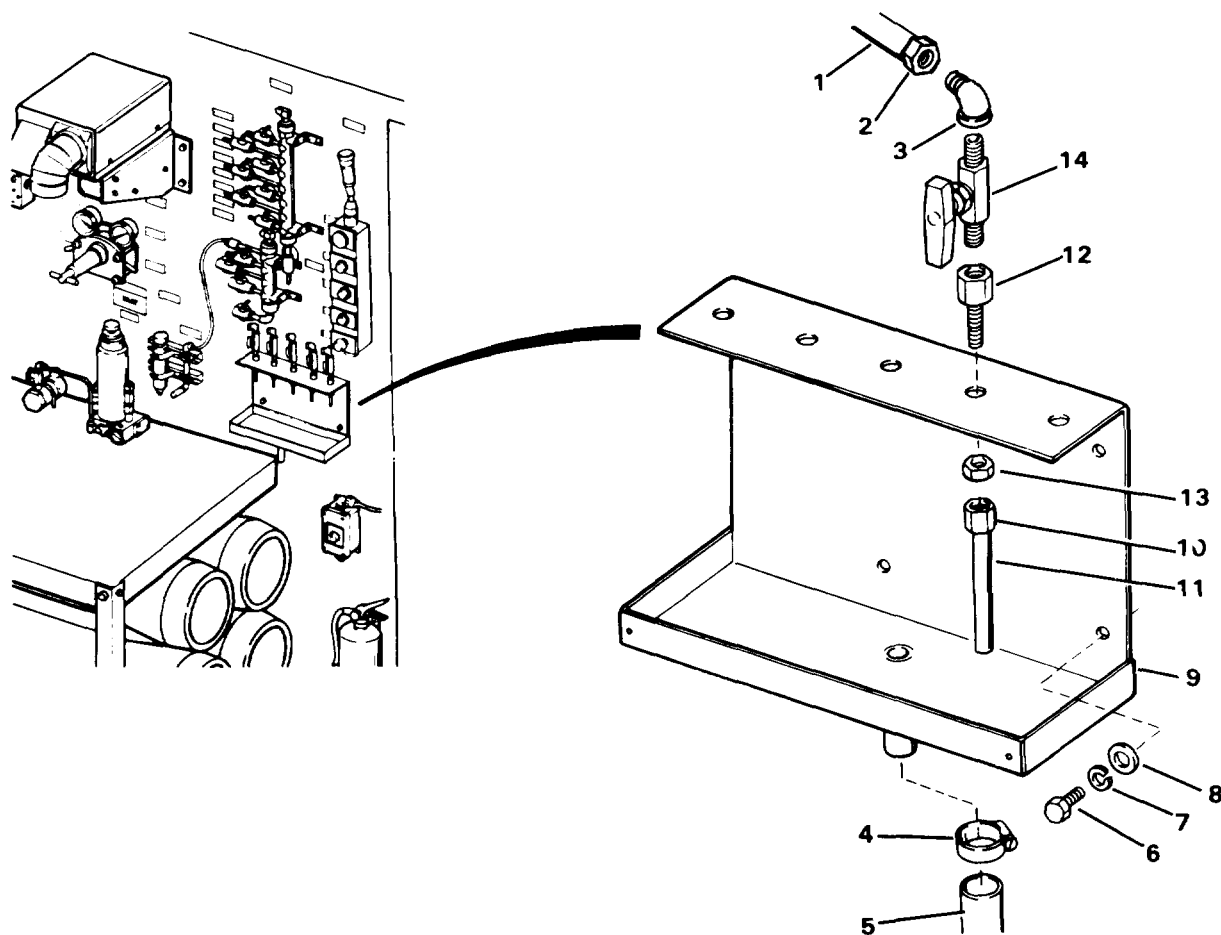

Figure 4-66. Sample Trough
- Tag and remove five input tubes (1, Figure 4-66) from elbows (3) by loosening tube fitting nuts (2).
- Loosen drain line clamp (4) and remove drain line (5) from bottom of sample trough (9).
- Remove four screws (6), lockwashers (7) and washers (8) and remove sample trough (9).